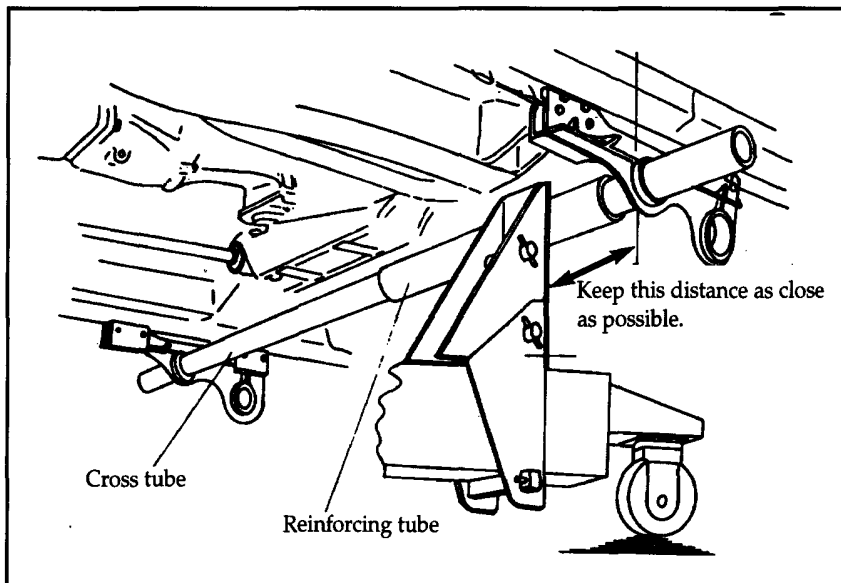

Figure 6
* Insert the cross tube (and reinforcing tube, depending on the model) after fastening these clamps to the pinch welds. (Fig.6).